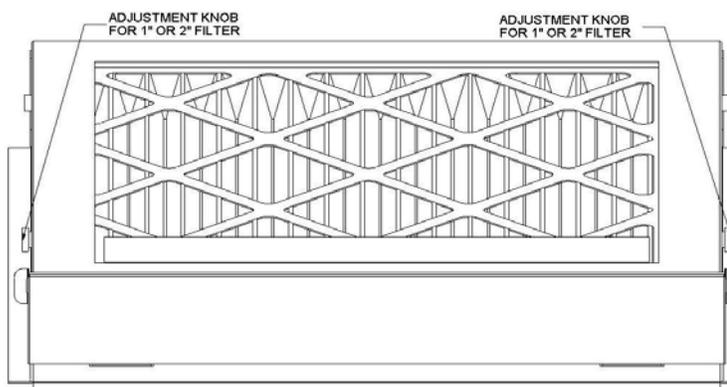

Figure 7: Accessory Air Filter Box for 1" or 2" Air Filters. Filter Size Adjustment knob is on both sides.
The unit is designed to be converted to a downflow configuration. You must use the downflow conversion kit and follow the instructions below. Refer to Figures 7 and 8.
3. Remove evaporator coil assembly with drain pan by sliding out the front of the unit as shown in the Figure 7.
4. Remove 6 screws (3 on each side of unit), securing evaporator coil support rails. Refer to Figure 7.